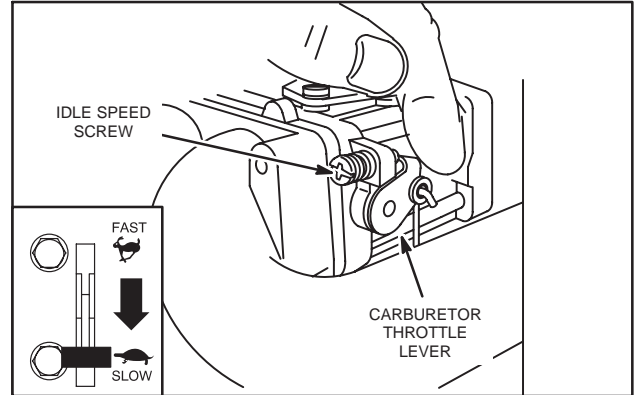

Fig. 22 – Adjusting Idle Speed
2. Hold throttle lever against idle speed adjustment screw and adjust idle speed to 1200 RPM, Fig. 22. Release throttle lever.